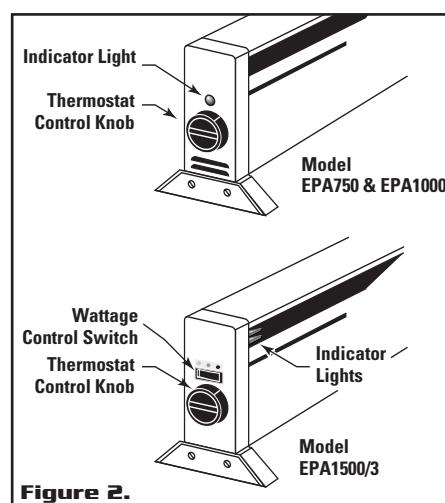

Figure 2.
- 1) Plug the electrical cord into a 120 volt (AC) outlet. The plug should fit tightly into the receptacle for a proper electrical connection.
- 2) Rotate the thermostat control knob clockwise until the light illuminates, indicating the heating element is on. Model EPA1500/3 multi-watt units have a second light (indicating the unit has power) and a wattage control switch. (See Figure 2)